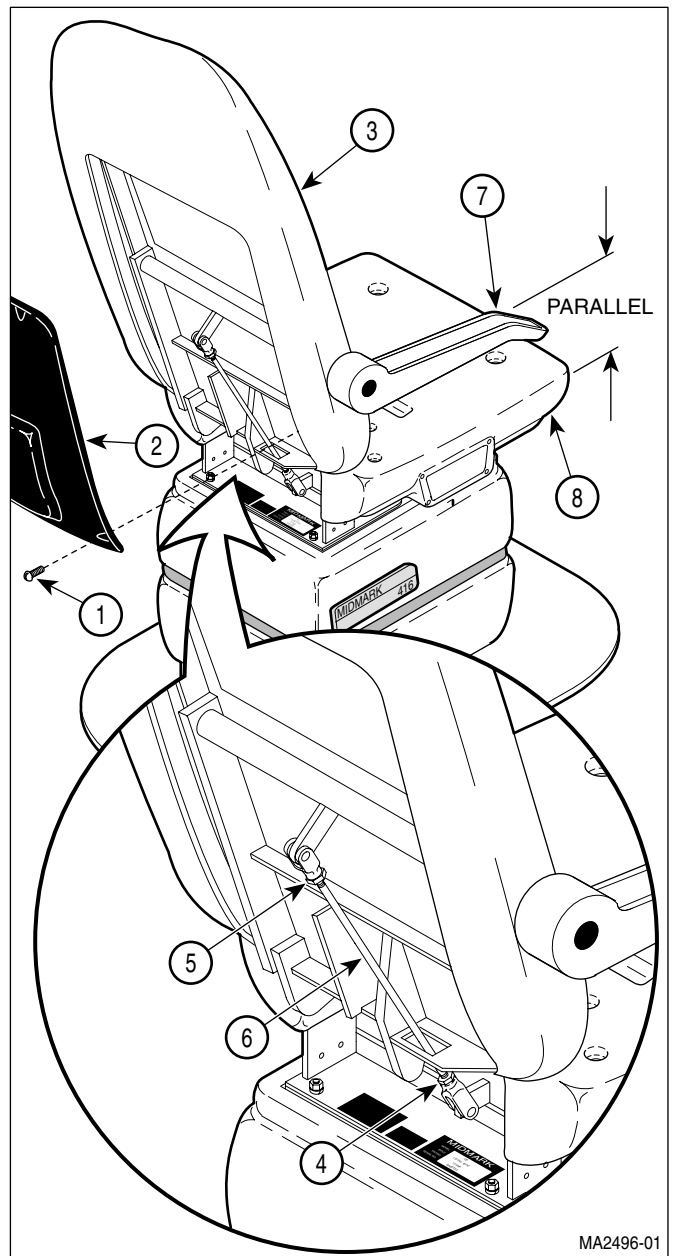

Figure 4-14. Arm Rest Adjustment
- (1) Raise BACK UP function all the way up.
- (2) Unplug power cord from wall outlet.
- (3) Remove four screws (1, Figure 4-14) and back cover (2) from plastic back section (3).